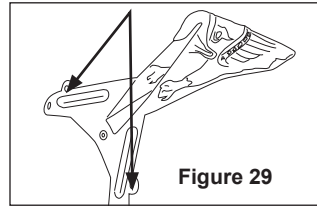

Figure 29
- Use these two mounting holes to attach the 5 inch leatherfront after the Eagle has been mounted to the helmet (Figure 29).